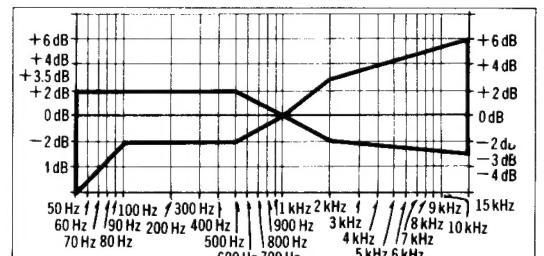

Fig. 15
9. Change test tape to QZZCRX, and record 50Hz, 100Hz, 200Hz, 500Hz, 1kHz, 4kHz, 8kHz, 10kHz and 15kHz signals. Then playback the signals and check if the curve is within the limits shown in the overall frequency response chart for CrO₂ tapes (fig. 15).
10. Place UNIT into Metal tape mode change test tape to QZZCRZ, and record 50Hz, 100Hz, 200Hz, 500Hz, 1kHz, 4kHz, 8kHz, 10kHz, 12.5kHz and 15kHz signals. Then, playback the signals and check if the curve is within the limits shown in the overall frequency response chart for metal tapes (fig. 15).